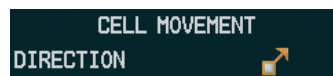

Figure 6-21 Cell Movement Legend
- 2) Press the **NEXRAD** Softkey (CEL MOV Softkey on the Weather Data Link (XM) Page). For Cell Movement to be displayed on maps other than the Weather Data Link (XM) Page, Cell Movement must be turned on in the Navigation Map Setup Menu (see the procedure “Setting up and customizing weather data for the Navigation Map Page”).
To display the Cell Movement legend on the Weather Data Link (XM) Page, (Figure 6-21), press the **LEGEND** Softkey when Cell Movement is selected for display.